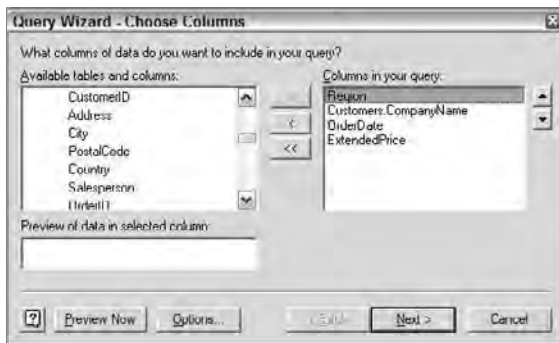

Figure 28.14: Select the tables and columns you want to use for a PivotTable.
7. In the Query Wizard Choose Columns dialog box, shown in Figure 28.14, choose the tables you want to use in your PivotTable. Choose Next.